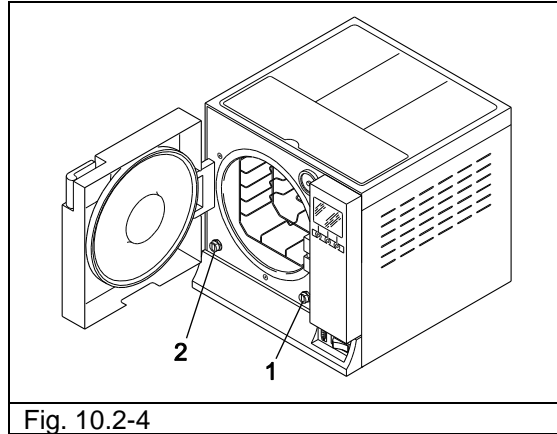

Fig. 10.2-4
1. Empty the clean water tank: fit the end of the tube with the connector into the connector at the bottom of the front of the unit (1 of Fig. 10.2-4) and the other end into an empty container.
2. Empty the internal tank for collecting used water: fit the end of the transparent tube into the connector at the bottom of the front of the unit (2 of Fig. 10.2-4) and the other end into an empty container.